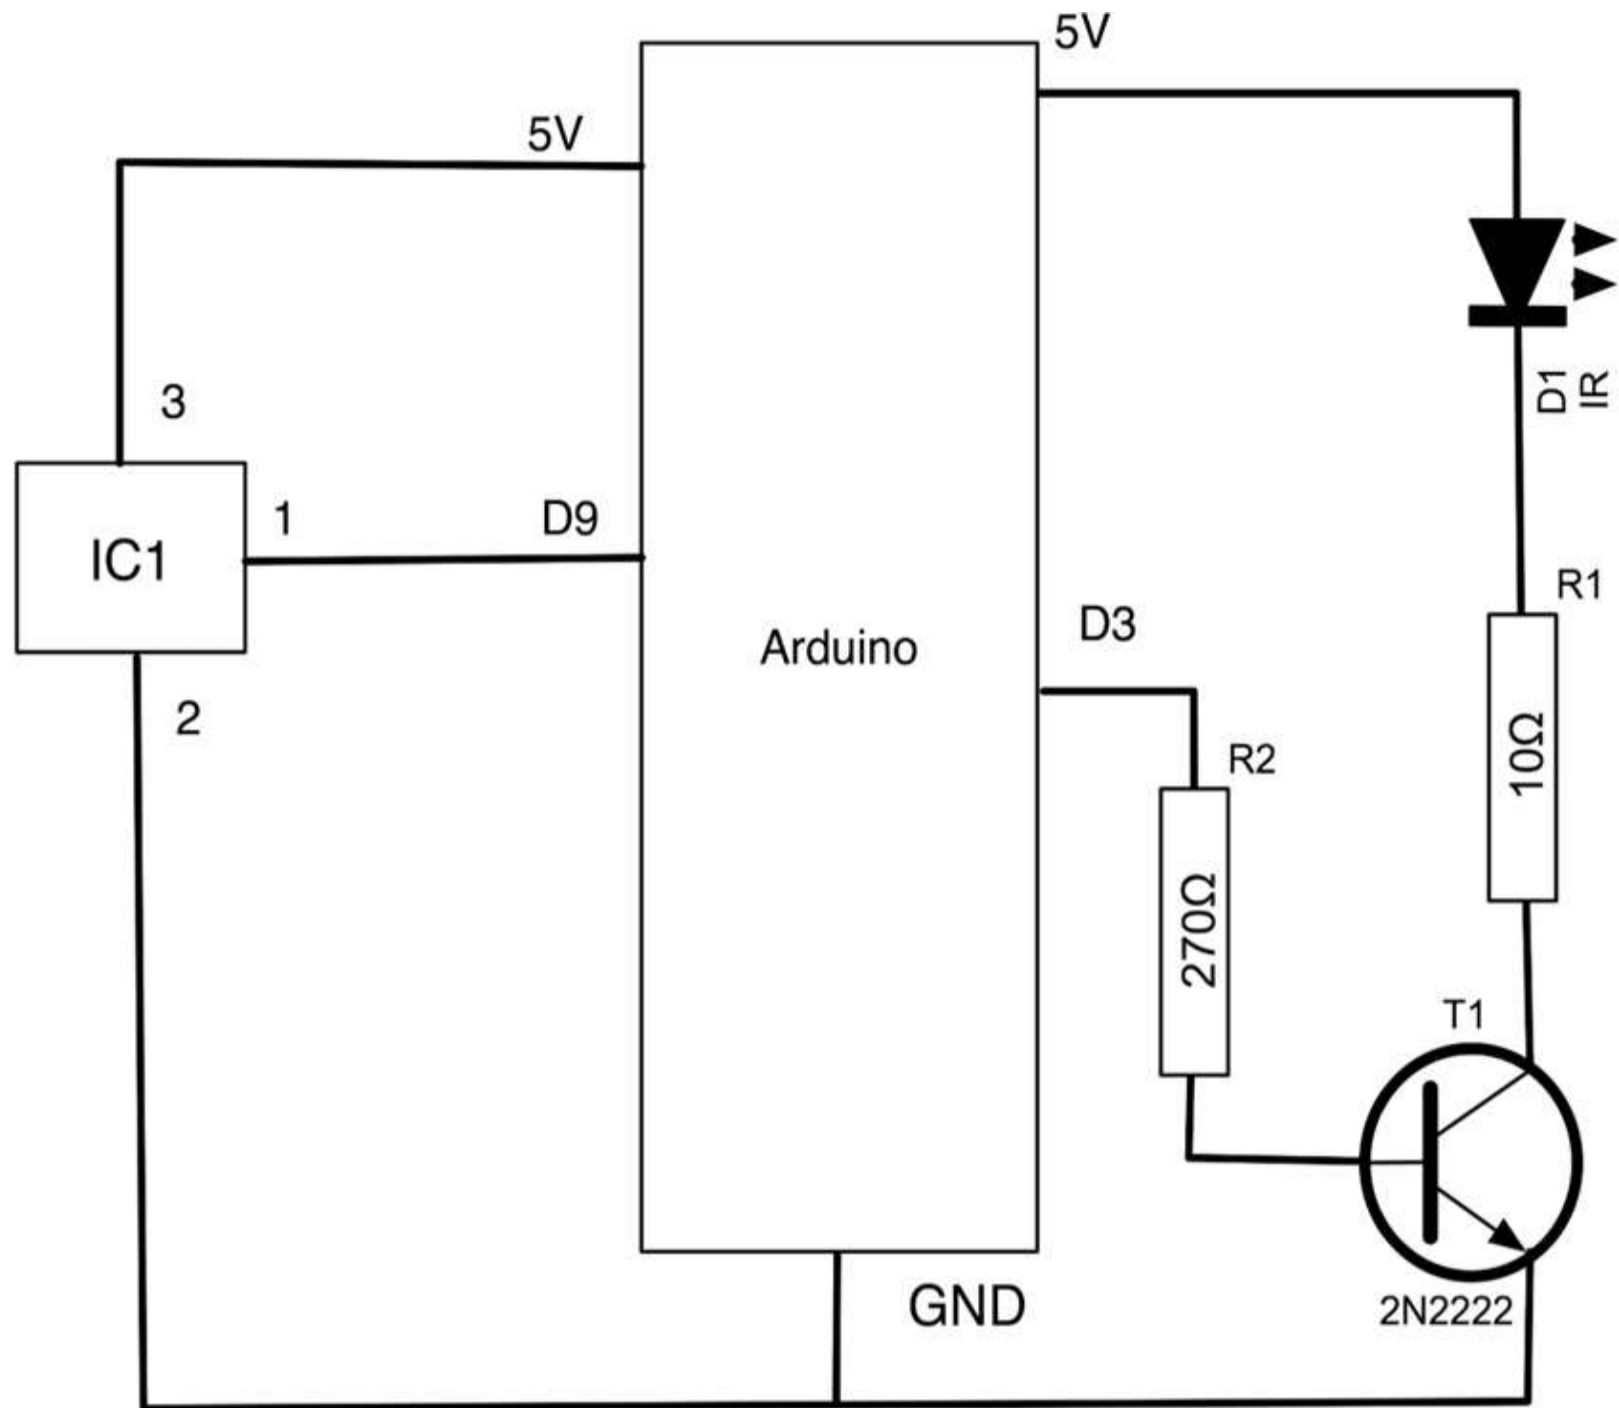

Figure 9-9 Schematic diagram for Project 28.
The infrared (IR) remote receiver is a great little module that combines an IR photodiode with all the amplification filtering and smoothing needed to produce a digital output from the IR message. This output is fed to digital pin 9. The schematic diagram (Figure 9-9) shows how simple this package is to use, with just three pins, GND, +V and the output signal.